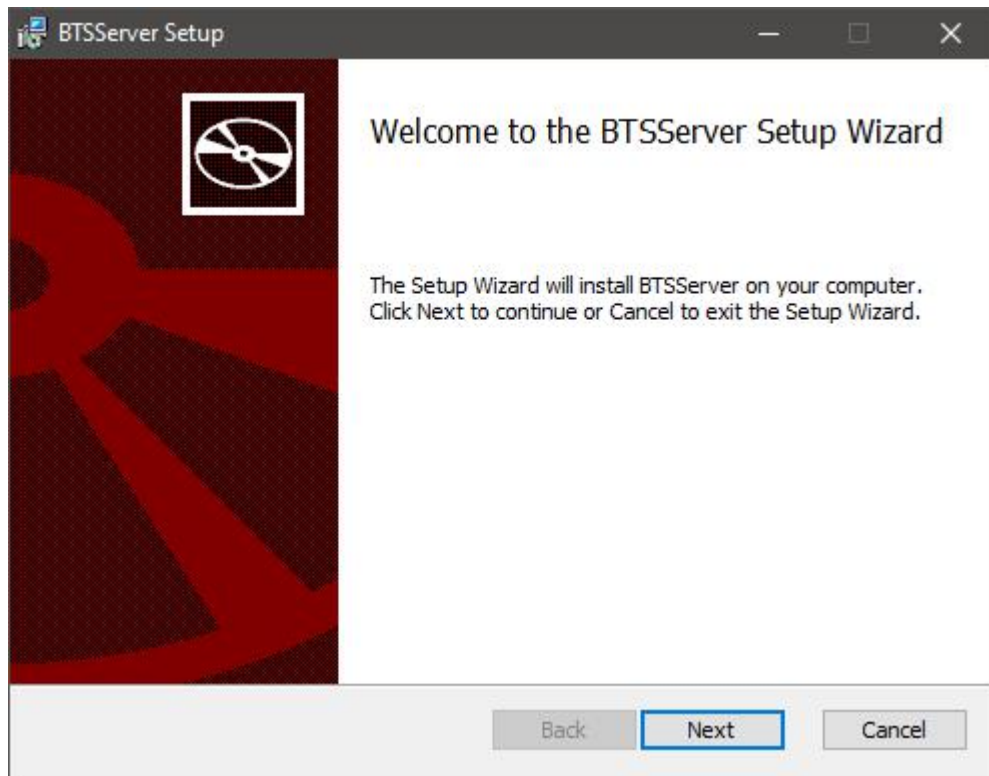

Figure 3.3.2 Install guidance window
1. Enter the install guidance of “ BTSServer” and click “Next” as shown in the figure 3.3.2: